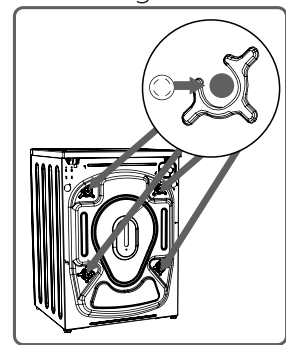

Fig4
**3:**When the transport bolts have been removed, insert the plastic transport screw taps found in the accessories bag into the holes.(Fig 4)